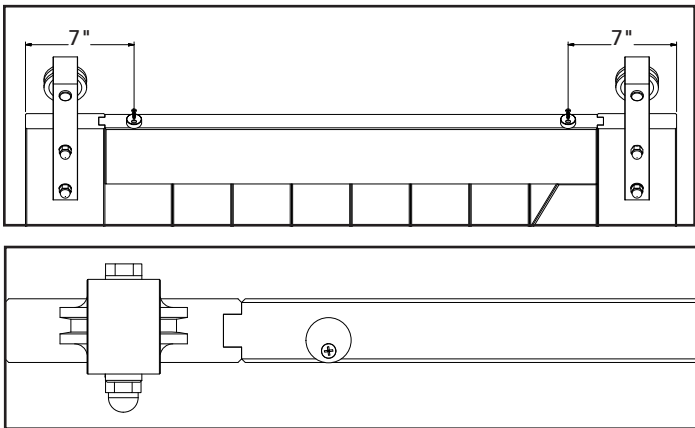

Figure 2. Pre-drilling Anti-Jump Disk
1. Position the center of the disks as seen in Figure 2
4. Secure with (2) #8 X 3/4" wood screws (keep anti-jump disk loose enough for future rotation; to be tightened in step 4)